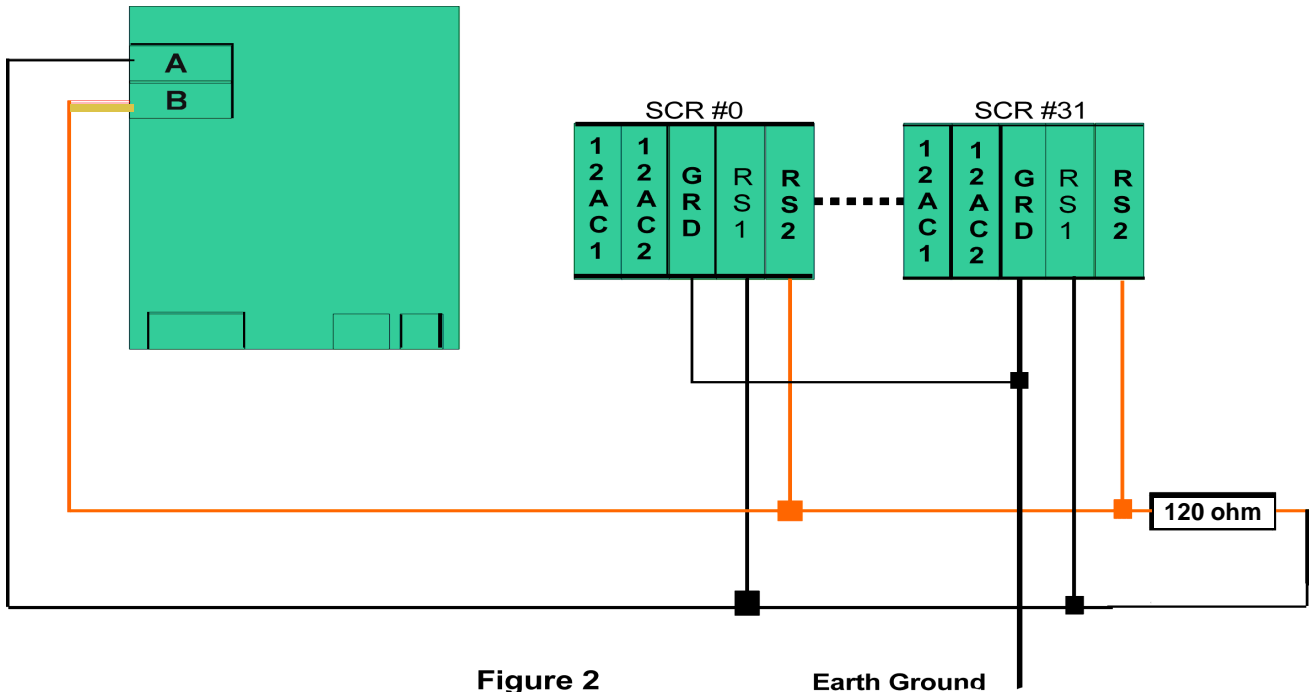

Figure 2
A maximum of 32 SCR9 can be interfaced with the AeGIS 9000 series via RS-485. See figure 2.
- Check the RS485 wiring, see figure 2 for wiring diagram.
- If more than one SCR9 involved on the installation, check the RS485 wiring as shown on figure 2. Some SCR9 RS485 wiring may be fine but the others may be reversed.